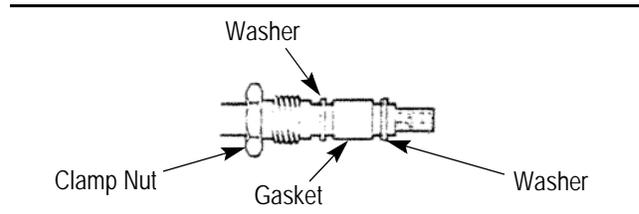

Figure 2
1. Slide clamp nut, a washer, gasket, and the other washer over the cable. See Figure 2.